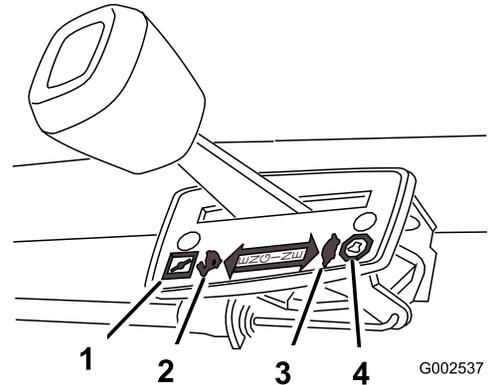

Figure 8
The throttle settings are shown in Figure 8.
3. Move the throttle control lever to the Choke position (Figure 8).
4. Move the ground speed control lever to the Neutral (N) position.